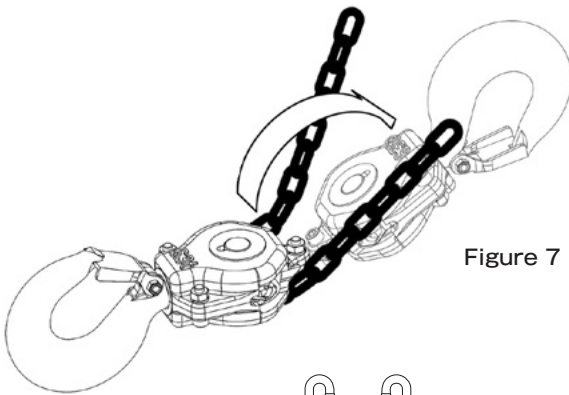
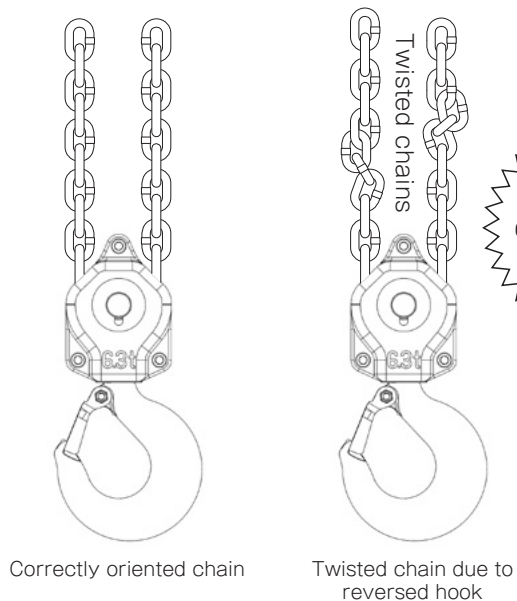

Figure 7
Figure 8
- (1) Make sure the chain stopper is attached to the second-to-last chain link on the no-load side of the load chain.
- (2) Before operating the equipment, make sure the load chain is not twisted or tangled. Hook for 6.3t (2 falls) and 9t (3 falls) are multiple falls hook. Make sure the hooks are not reversed. Be sure to correct any problems before using this equipment. (Figure 7, Figure 8)